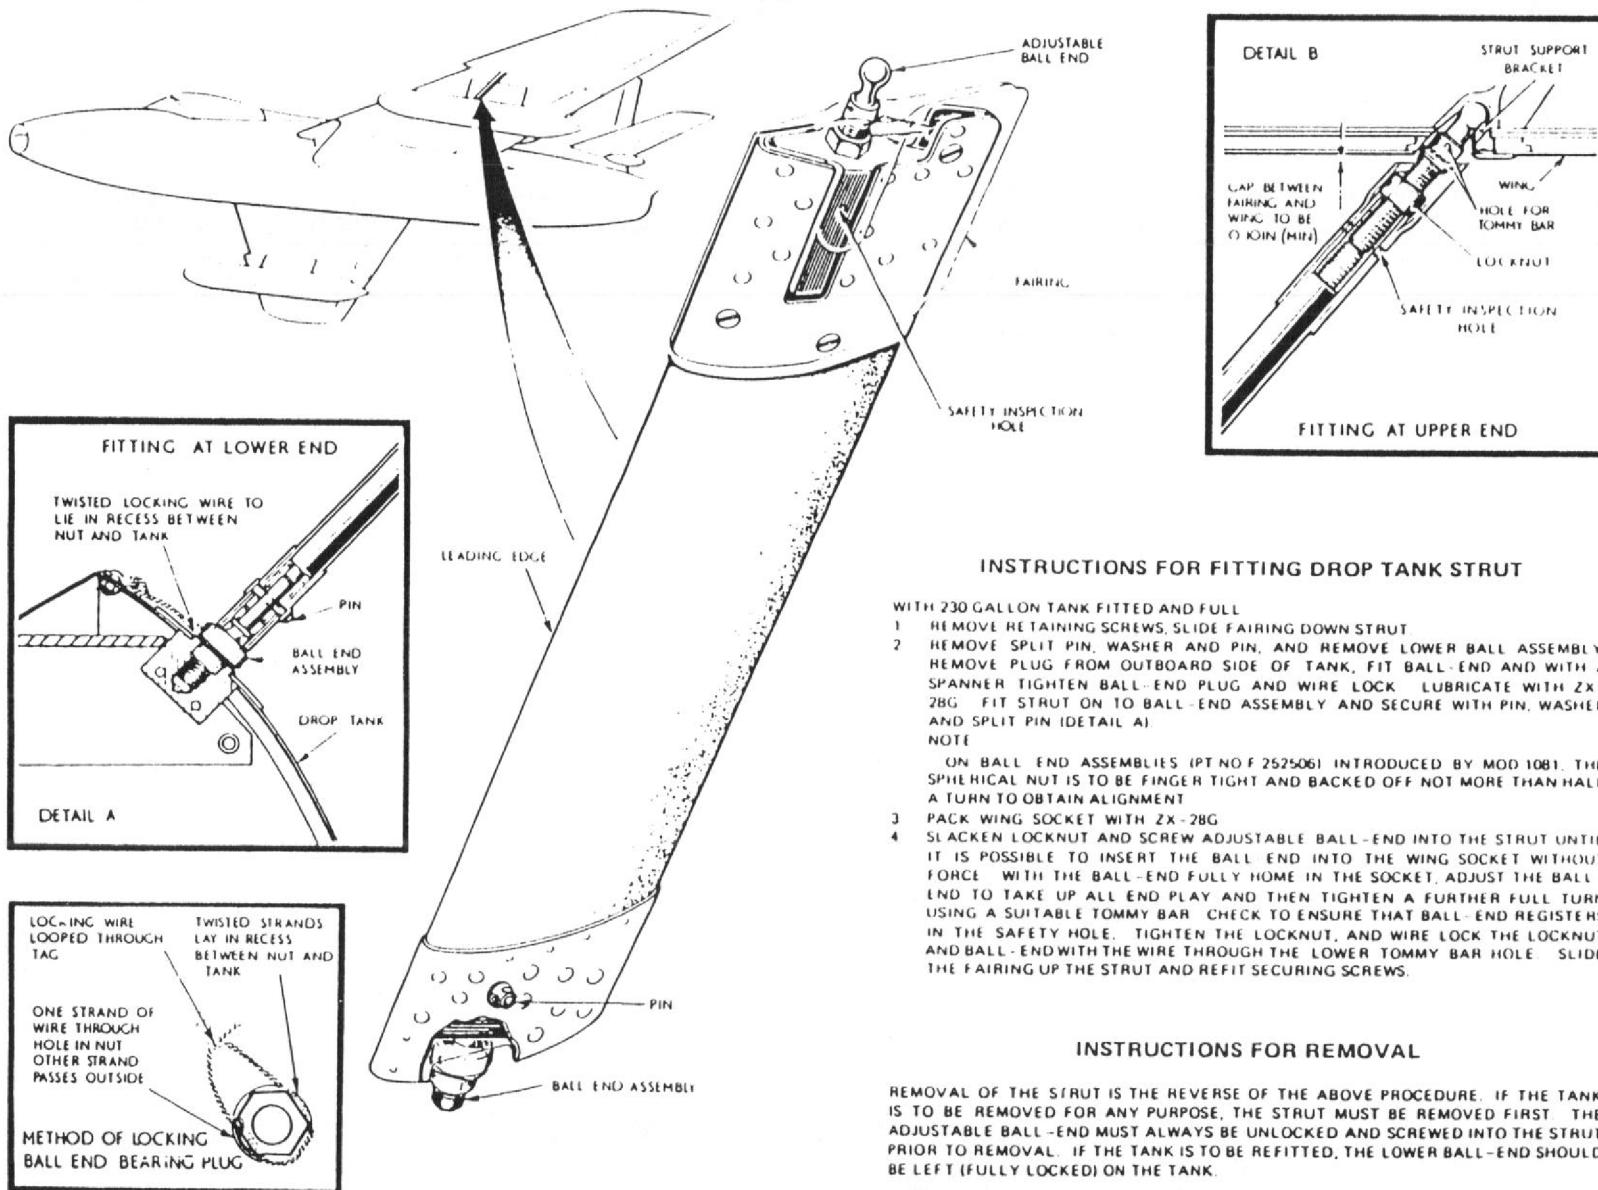

Fig.2 Fitting drop tank strut
(6) Plug in the unsleeved connector (10) on the drop tank to the sleeved connector (9) on the pylon.
(7) By means of the crutching tool raise the tank until the fore and aft spigots (7) are engaged in the holes provided in the sole plate (11) of the pylon, and the tank adapters (6) are making contact with the fuel and air valves in the valve body (5). Check that the electrical cables from the tank to the plugs are not trapped between the tank and the sole plate.
(8) Apply the final crutching load by using a torque wrench set to 95 ± 2 lb ft, attached to the adapter on the crutching tool.
(9) Remove the torque wrench and crutching tool, connect socket (13) to the breech cap and replace the access panel in the wing.
(10) Reconnect the safety breaks (4) and replace the rear doors (3) on all pylons.
► (11) If Mod.896 is embodied, fit the special bracing strut between the drop tank and the wing as described on Fig.2 after filling the drop tank with fuel.
(12) Immediately before flight replace the armament safety break.